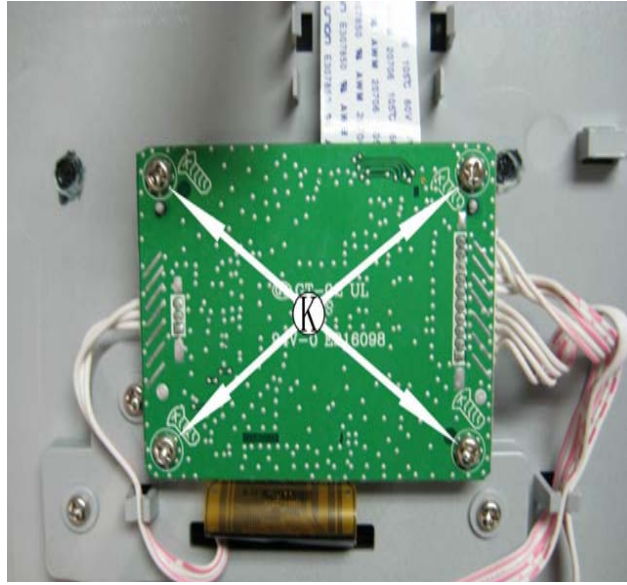

Figure 11
- 1) Loosen 4 screws "K" as shown in figure 11 to detach LCD Board.